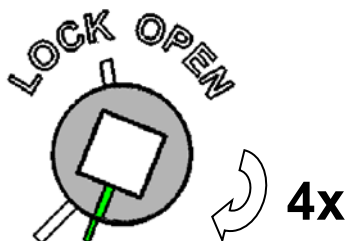

figure 1
2. Turn the cam clockwise minimum 4 complete turns and stop when the cam is lined up as shown in figure 1.